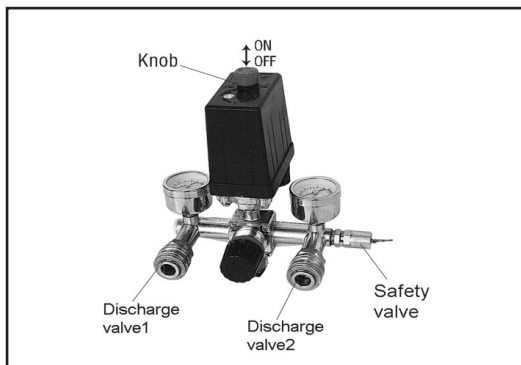

Fig. 2
6. Open the outlet valve, set the knob of pressure switch in position on (Fig.2), let the compressor run 10 minutes with no load to ensure lubricating the moving parts before regular service.